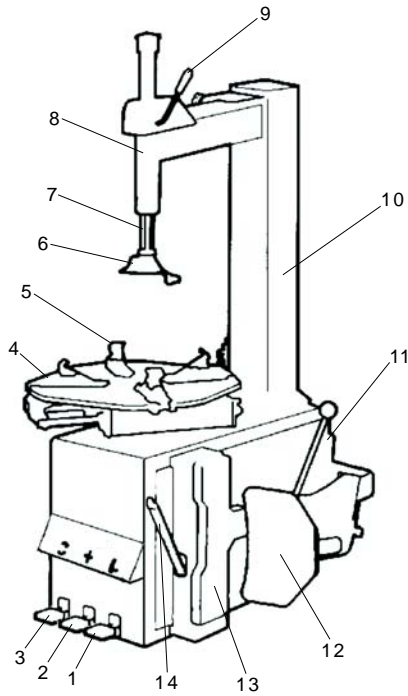

Fig.2
- 2) Depress the Reverse Pedal (3, Fig2) down, the turntable should turn in a clockwise direction. Pull the pedal up and the turntable should turn anticlockwise.
- 3) Press the bead breaker pedal (1, Fig2) to activate the paddle. When the pedal is released. The pedal should return to its original position.
- 4) Press the jaw clamp pedal (2, Fig.2) once to open the four jaws. Press the pedal again to close the jaws.
- 3) Place the wheel / tire evenly on the turntable.(4, Fig.2)
Position the four jaws (5, Fig.2) according to the reference mark located on the turntable by depressing the jaw clamp pedal (2, Fig.2) halfway down.
- 5) Lower the tools shaft (7, Fig.2) until the mounting head (6, Fig.2) rests next to the wheel rim and on top of the tire. Then, lock the tools shaft in position, using the block support.
- 7) Move the tire bead over the mounting head by pulling upward on the reverse pedal.(3, Fig.2)
- 9) With the lever (14, Fig.2) held in position, rotate the turntable in a clockwise direction by fully depressing the reverse pedal. Continue until the tire is completely separated from the wheel rim.
- 3) Lock the wheel rim, using the inner part of the jaws.(5, Fig.2)
- 4) NOTE: When you are working with wheel rims of the same size, it is not always necessary to lock and unlock the tools shaft. Instead, move the swinging arm (8, Fig.2) sideways with the tools shaft locked.(7, Fig.2)